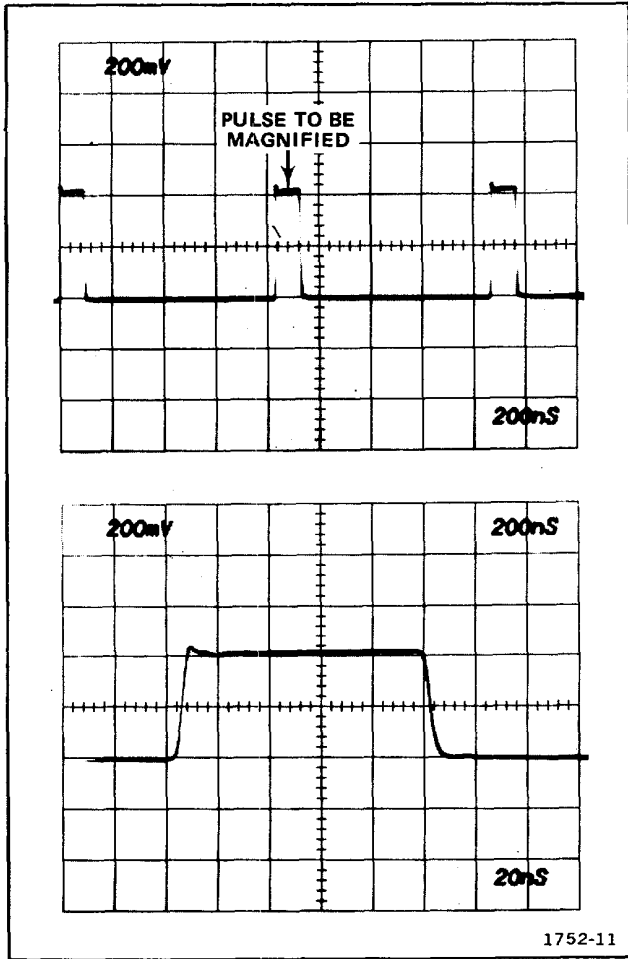

Figure 2-10. Using delayed sweep for magnification.
- Set the TIME/DIV OR DLY TIME switch to a sweep rate which displays the complete waveform (see figure 2-10).
Example: The apparent magnification of the display shown in figure 2-10 with a TIME/DIV OR DLY TIME setting of 200 ns and a DLY'D Time/Division switch setting of 20 ns is: